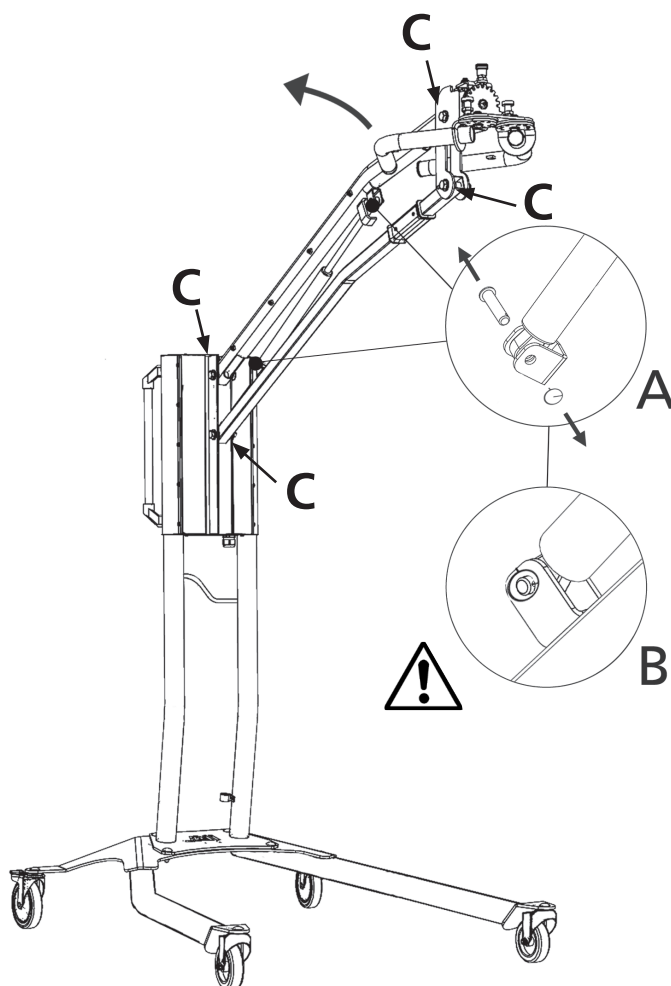

Figure 2
If the mobile arm does not park in highest or lowest position but falls or raises slightly by itself, tighten the 4 bolts indicated with the letter "C" in figure 2. If the arm still does not park or becomes heavy to adjust, the gas pressure spring must be replaced.
2. Place the parallel arm in the far most upright position.(figure 2).
4. Remove the locking rings and the two pins. Move the gas spring slightly upwards/forward and then remove it (figure 2).